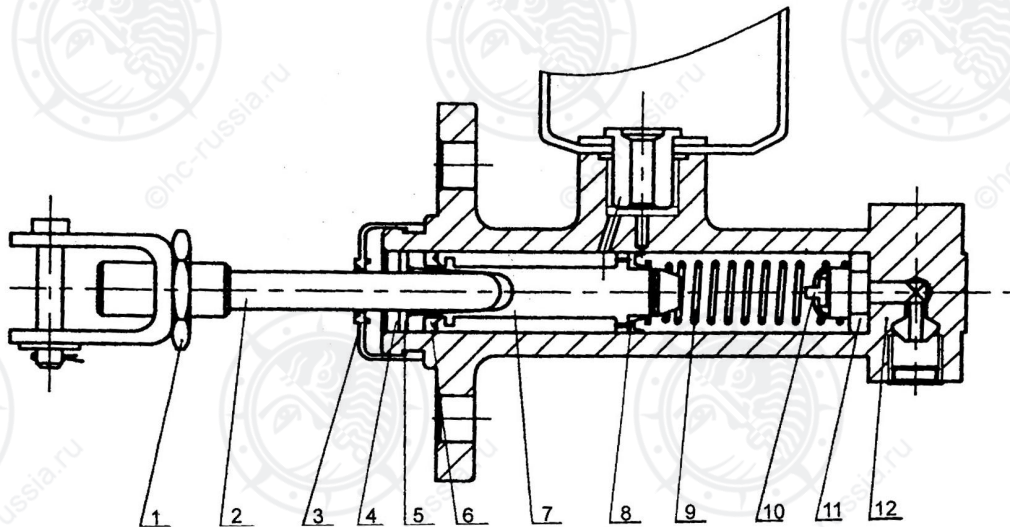

Fig. 8-1 Master cylinder
3.1 Full hydrostatic power steering gear assemble(refer to Fig.8-1)